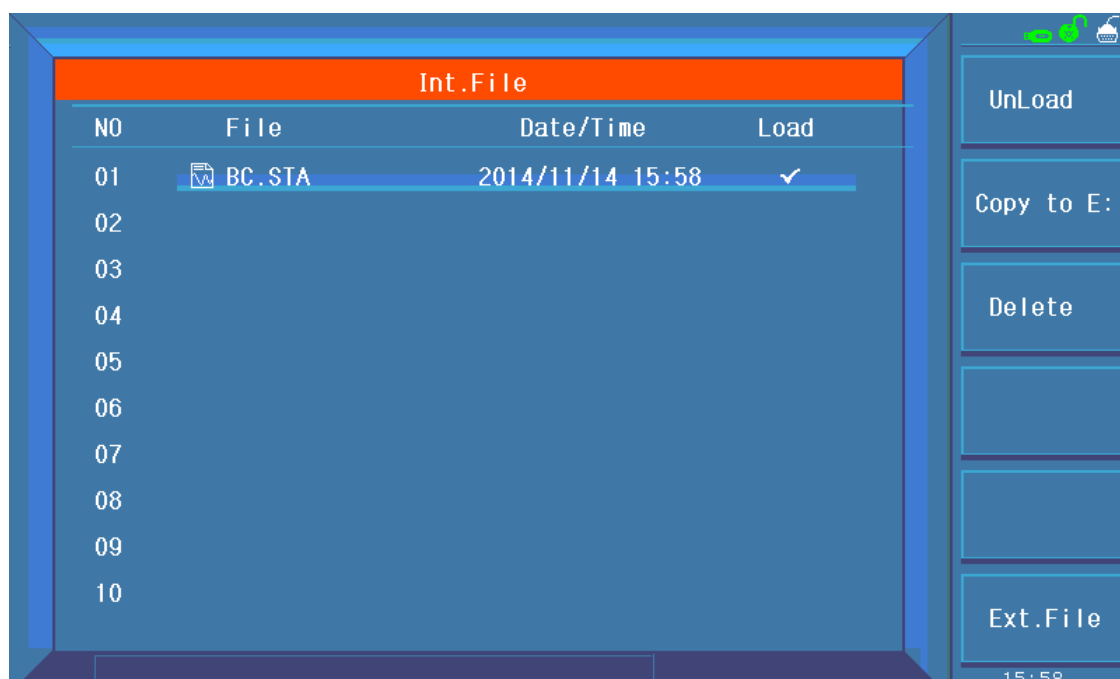

Figure 5-2 Internal File
PT50xx series can save parameters that are set by user to the internal non-volatile memory in file format. User can load the file to use these parameters instead of resetting. The internal memory can store 100 groups of files including files of measure parameters, compare parameters, etc. Figure 5-2 shows the page of internal file.
- ✧ **Load** Press this key to load a file stored in the internal non-volatile memory. As figure 5-2 indicates, using the arrow key select the needed file. Press **LOAD** to load the file. If the selected file is needed to load, press **YES**; otherwise, press **NO**.